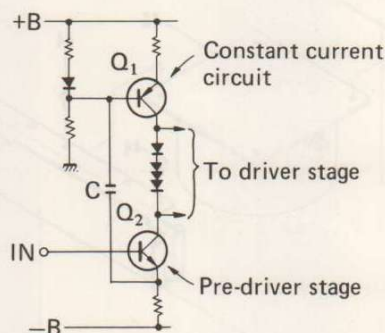

Fig. 6-1 Pre-driver stage
Although the incorporation of the tone control circuits in the power amplifier stage reduces the number of elements that the signal has to pass through, and thereby further reduces noise, distortion, and cost, the power stage does require a higher gain and a higher degree of stability. In the SA-3000, this high gain and high stability are achieved by a current mirror load differential amplifier in the first stage and by the use of a constant current circuit for the load of the pre-driver stage. Furthermore, the tendency for the pre-driver stage capacitance impedance load to cause deterioration in the high end frequency response is suppressed by inserting a capacitor (C) between the emitter of the pre-driver stage (Q2) and the base of the constant current circuit (Q1) as shown in Fig. 6-1. At frequencies where the reactance of this capacitor may be ignored, the